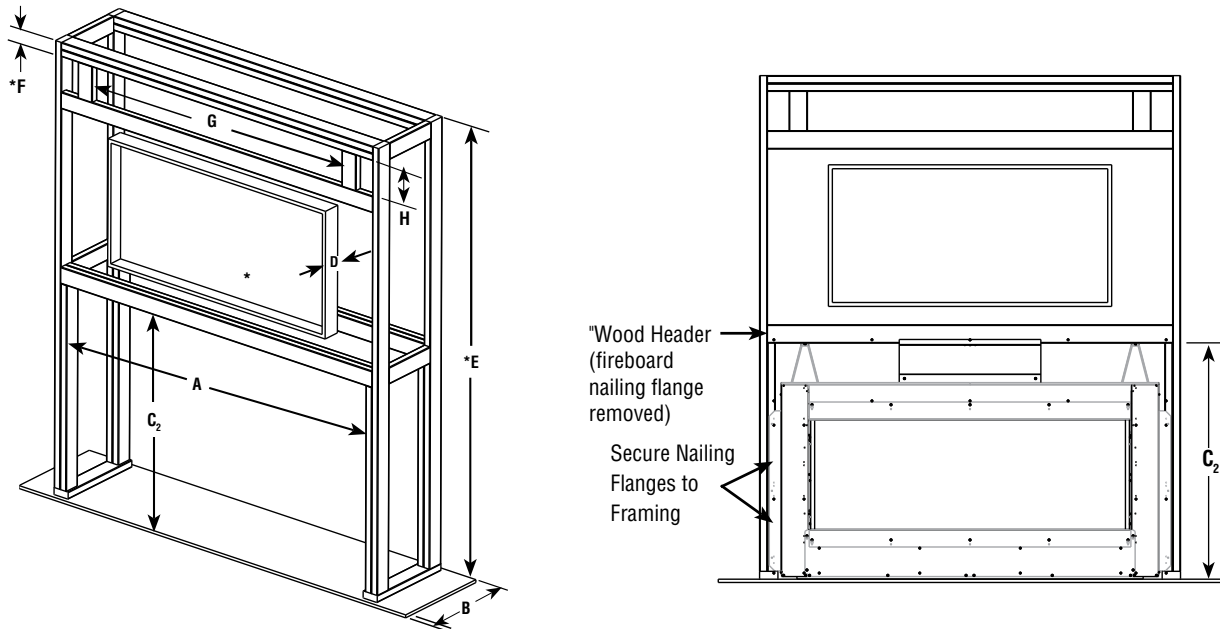
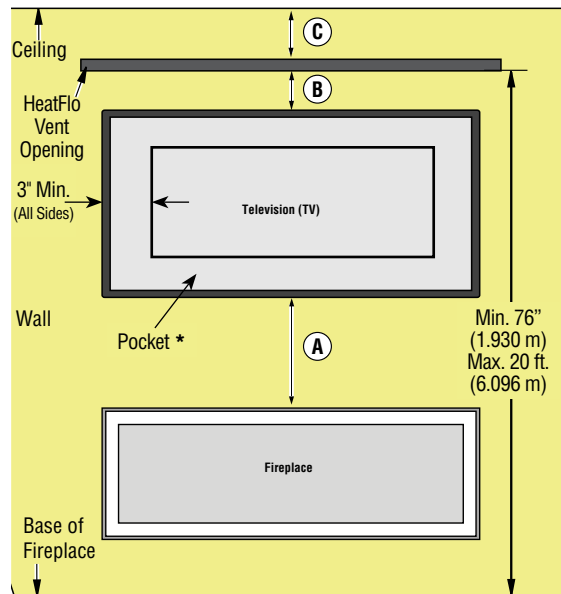

Figure 7 - Fireplace Framing Dimensions for Recessed Wall Pocket TV Installation One Sided & See-Thru Application
Figure 9 - Dimensions for Television (TV) Installed Above Fireplace on a Recessed Wall Pocket
4. **Figure 4**, shows a typical framing of this fireplace. **Figure 7, Page 15** shows framing for HeatFlo kit installation. **Figure 9, Page 15** shows a recessed framing for HeatFlo kit installation. All minimum clearances must be met. Vent pipe needs to maintain 1" clearance. Wood studs may be notched. Fireboard is provided for facing around the fireplace.